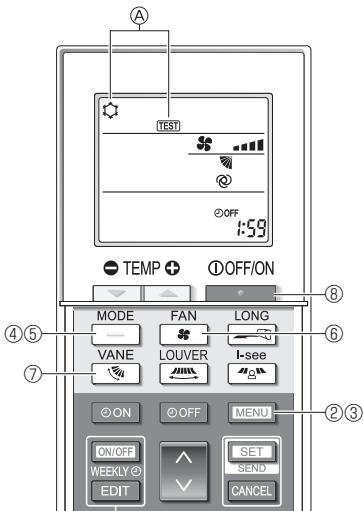

Fig. 7-5
- ① Turn on the power to the unit at least 12 hours before the test run.
- ② Press the [MENU] button for 5 seconds. (Fig. 7-5)
- ③ Press the [MENU] button.
- ④ [A] [TEST] and the current operation mode are displayed. (Fig. 7-5)
- ⑤ Press the [] button to activate cool mode, then check whether cool air is blown out from the unit.
- ⑥ Press the [] button to activate heat mode, then check whether warm air is blown out from the unit.
- ⑦ Press the [] button and check whether the fan speed changes.
- ⑧ Press the [] button and check whether the auto vane operates properly.
- ⑨ Press the [] button to stop the test run.